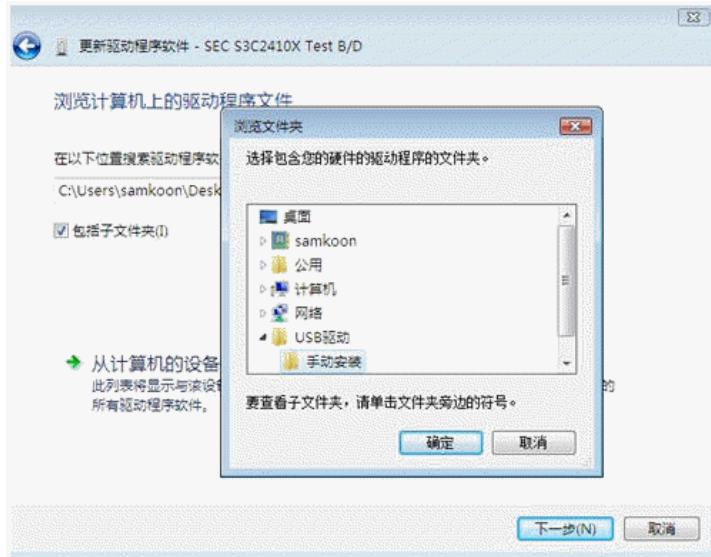

Figure 2-24: Manual installation selecting page of VISTA
- Then, view “Manual installation” directory, and click “next”. See Figure 2-24.